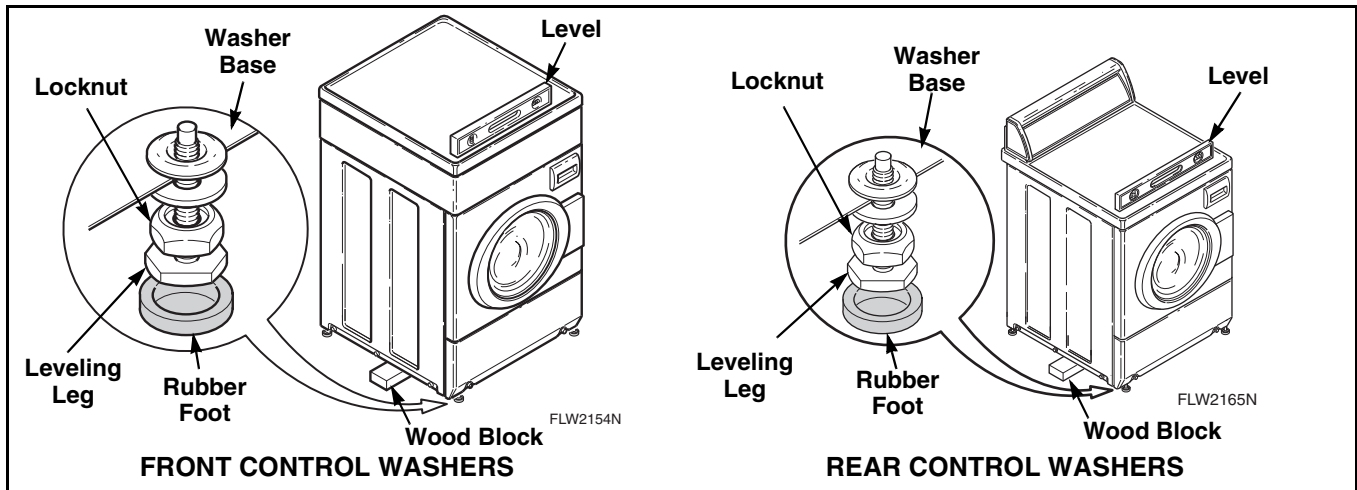

Figure 4
- Place level on washer, refer to *Figure 4*, and check if washer is level from side to side and front to back.
**NOTE:** Level must rest on raised portion of top panel. Refer to *Figure 4*.
- If washer is not level, tilt washer to access front and rear leveling legs. For easier access to leveling legs, prop up washer with wooden block. Refer to *Figure 4*.
- Loosen locknuts and adjust the leveling legs until the washer is level from side to side and front to back (using a level). **Make sure washer does not rock.** Refer to *Figure 4*.
- Place rubber feet on all four leveling legs. Refer to *Figure 4*.
- Loosen one front leveling leg locknut. Refer to *Figure 4*.